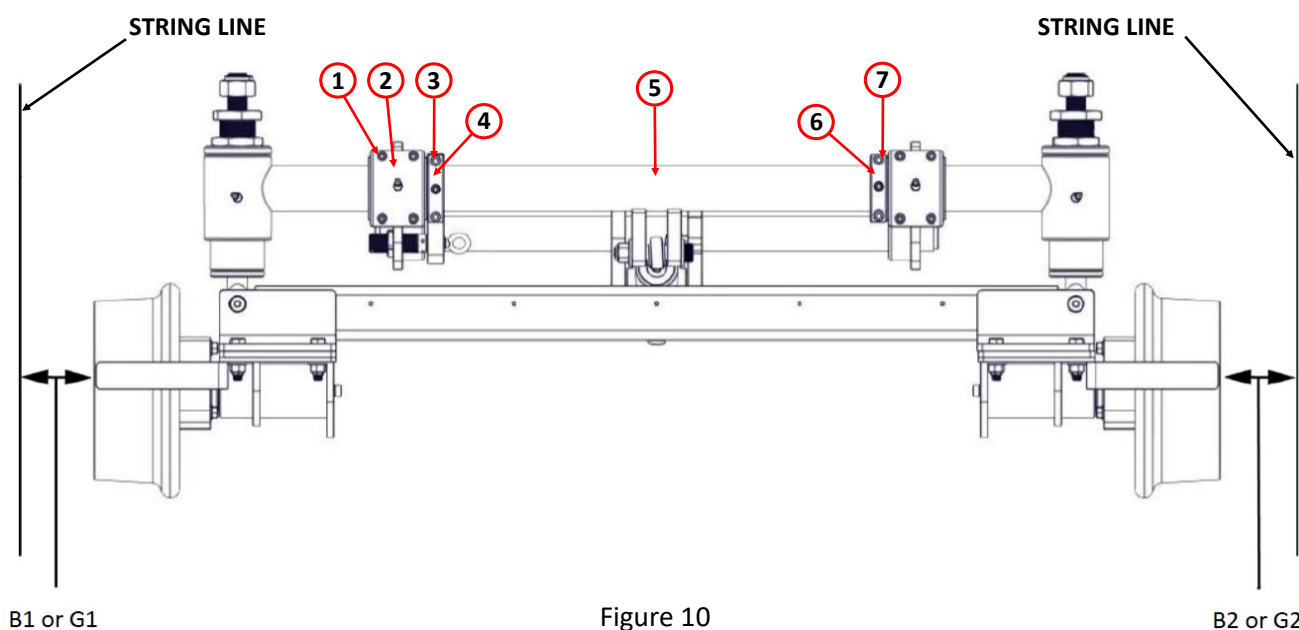

Figure 10
7.2) Adjusting Guide Wheels - See Figure 10 and 11